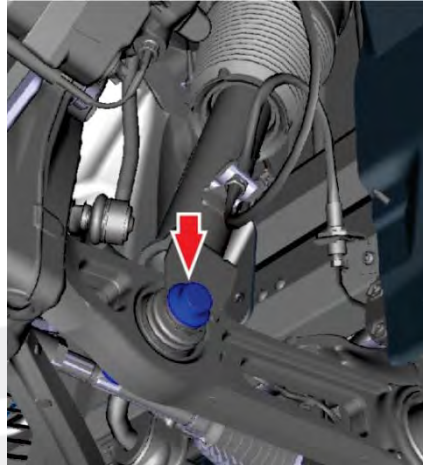

Figure 2
6. Remove the bolt and nut that hold the spring module to the lower aft arm (torque 140 Nm) (Figure 2).